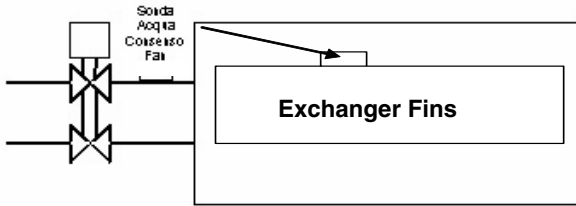

Fig. 8 Locating the Fan Coil consent water sensor
3. **Temperature sensor with fan start consent thermostat function:** position the sensor on the exchanger fins as shown in Fig. 8.